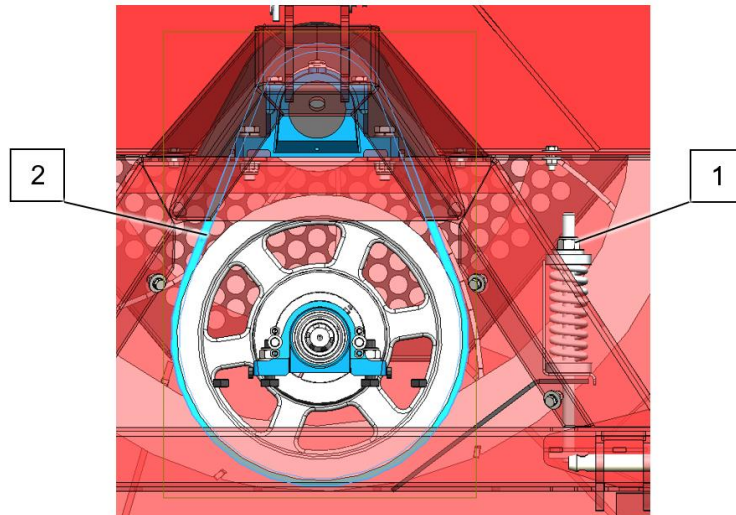

Fig. 8
Therefore, after the first day of operation, the V-belts should be readjusted as follows (Fig. 8):
The correct tension is achieved when you can press the belts in by approximately 8 mm (0.32") (2) halfway between the two pulleys (see above Fig. 8). Ensure that the V-belts remain clean and dry.
It is advisable to slightly reduce the V-belt tension if the machine will remain unused for an extended period. To do this, loosen the adjustment bolt (1) a few turns (see above Fig. 8).